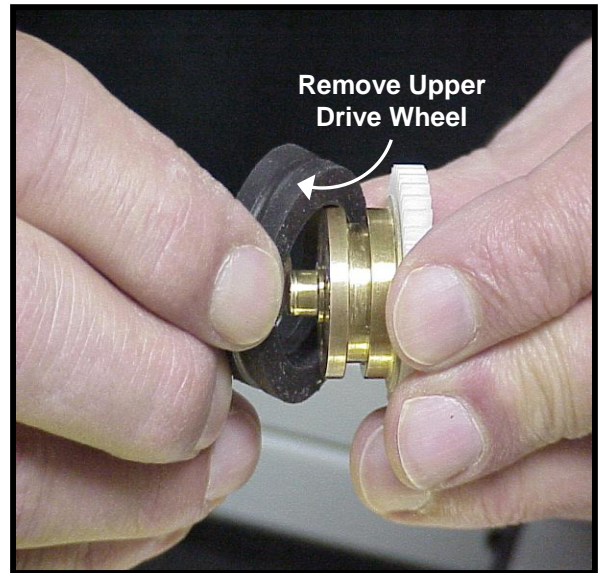

Figure 42
13.5.2.7 Remove Upper Drive Wheel by peeling it away from the hub. See Fig. 42.